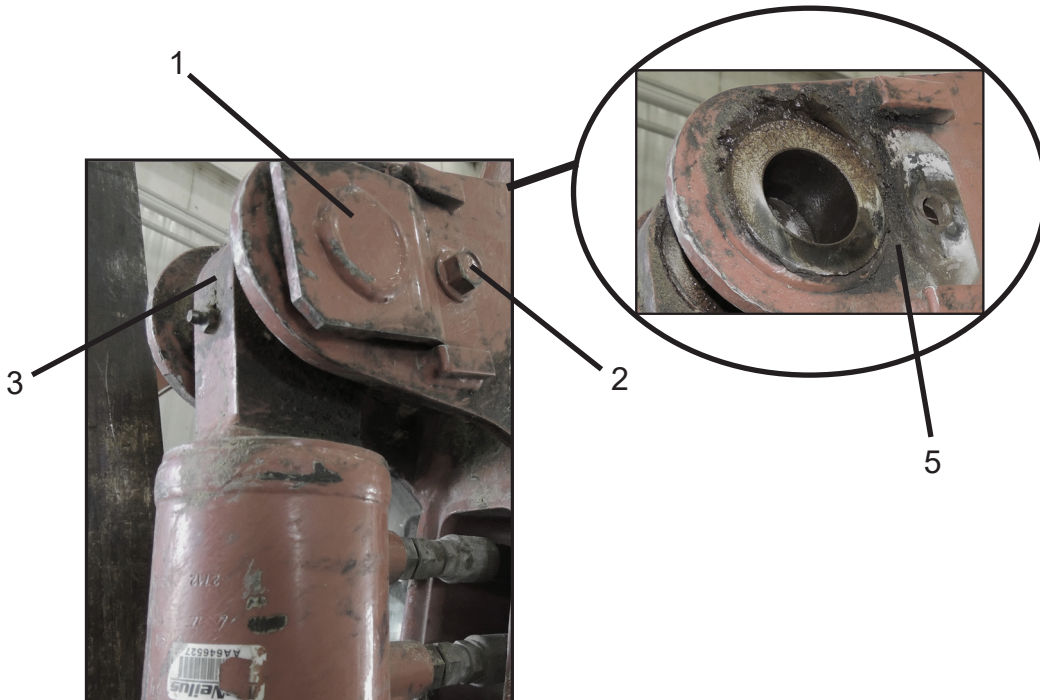

Figure 2
4. Starting on the street side arm fork lug, remove and retain the bolt (Figure 2, Item 2) and nut (not shown) from the retaining plate (Figure 2, Item 1) at the top of the arm fork cylinder (Figure 2, Item 3).
Safely and securely support the cylinder, remove the cylinder retaining plate and pin (Figure 2, Item 1) and move the cylinder out of the way. Moving the cylinder just a couple of inches away from the lug cavity is all that is required. Bolt, nut, plate, and pin shown removed in Figure 2, Item 5.